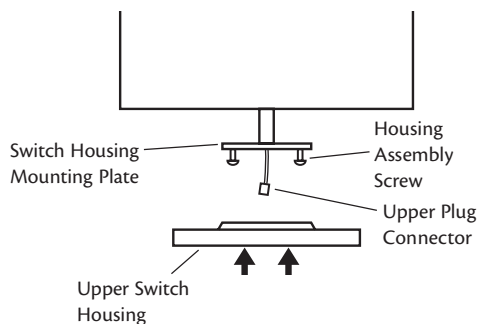

**Figure 25 - Attaching the blade iron to the fan**
4. For each blade, insert one blade mounting screw through the blade iron as shown in Figure 25, and attach lightly to the fan. Insert the second blade mounting screw, then securely tighten both mounting screws.